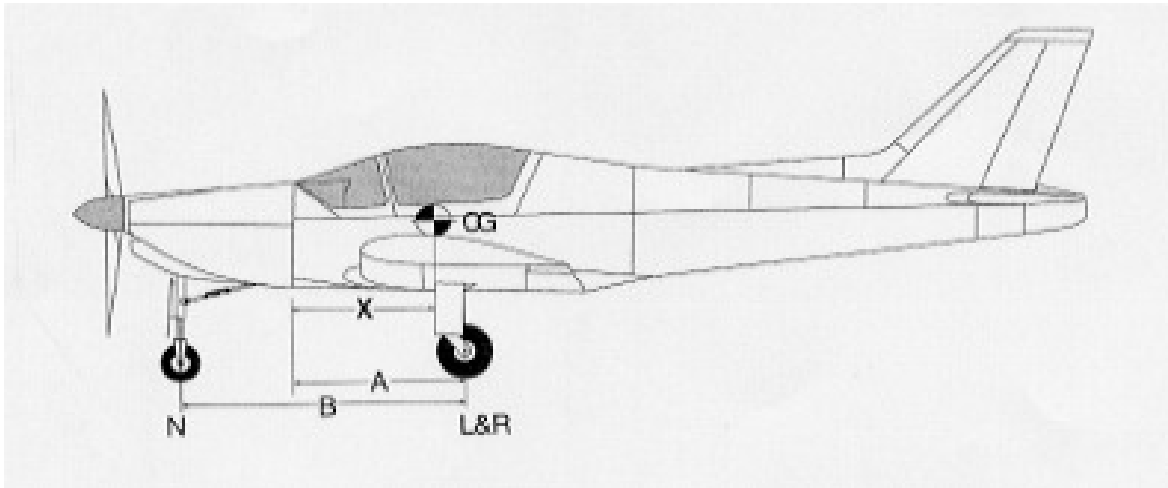

fig. 6-1 Measurements
d) Measuring (ref. figure 6-1):